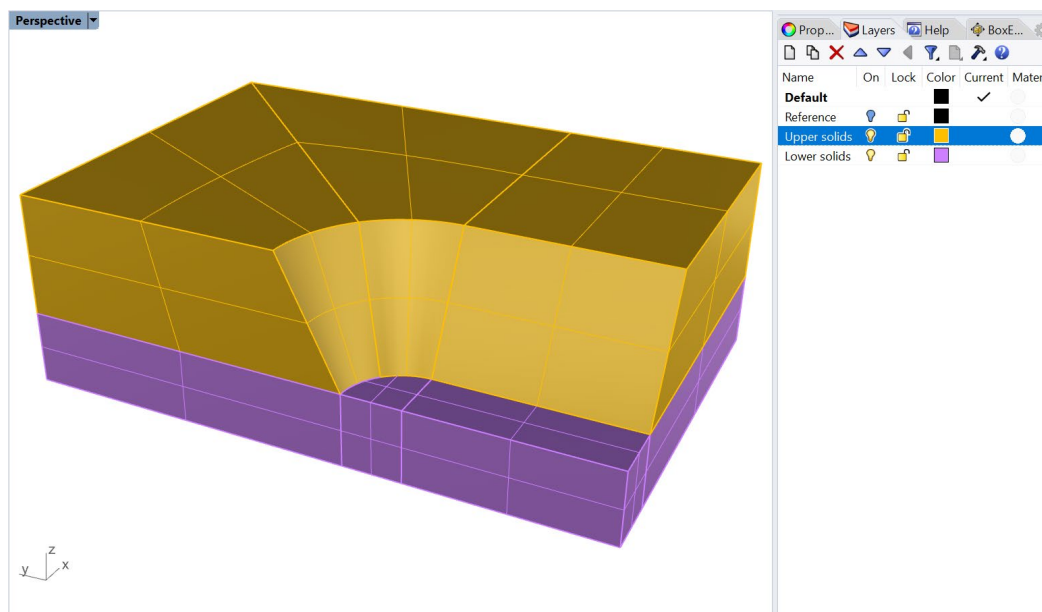

Figure 49: The model after the "Upper solids" and "Lower solids" layers have been specified.
23. Create new layers “Upper solids” and “Lower solids” in the *Layers* pane. Assign distinct colors to these layers. Select only upper solids and assign them to the layer “Upper solids” (through the *Properties* pane). Complete the same for the lower solids (Figure 49).